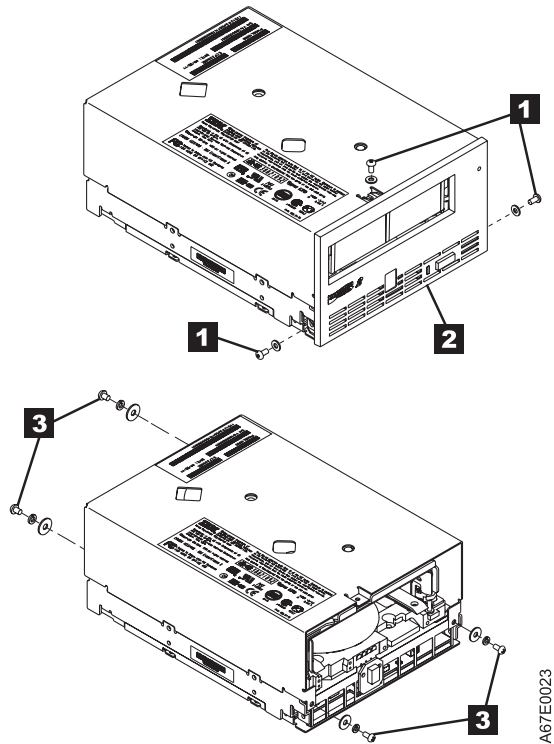

Figure 141. Removing the top cover of the drive
- a. Use an appropriate tool to remove the three screws and washers (see **1** in Figure 141 on page 301) that secure the bezel **2**. Remove the bezel.